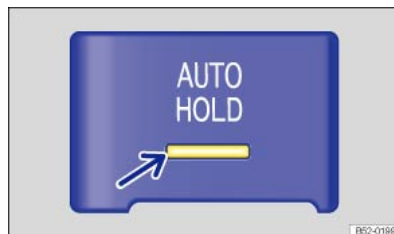

Fig. 152 In the centre console: button for the Auto Hold function.
Old: The Auto Hold function is active when the indicator lamp in the **AUTO HOLD** button ⇒ Fig. 152 (arrow) lights up yellow and the indicator lamp (P) in the instrument cluster display lights up green.
- Press the **AUTO HOLD** button ⇒ ⚠. The indicator lamp **AUTO HOLD** ⇒ Fig. 152 in the button (arrow) lights up yellow. The Auto Hold function is operational, but the vehicle is not necessarily held stationary ⇒ ⚠.
- Press the **AUTOHOLD** button ⇒ ⚠. The indicator lamp in the button **AUTOHOLD** ⇒ Fig. 152 (arrow) switches off.